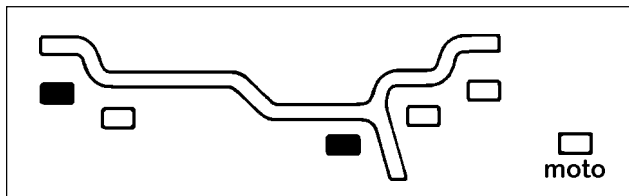

Fig.52
**F. ALU5.** The wheel weights position is as indicated in Fig.52. In this case use one tape weight on the inside and a clip-on weight on the inner edge.